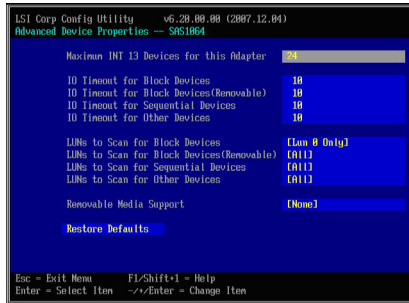

Figure 13. Advanced Device Properties screen
- Use the arrow keys to select **Advanced Device Properties**, then press Enter. The Advanced Device Properties screen displays as shown in Figure 13 on page 44.